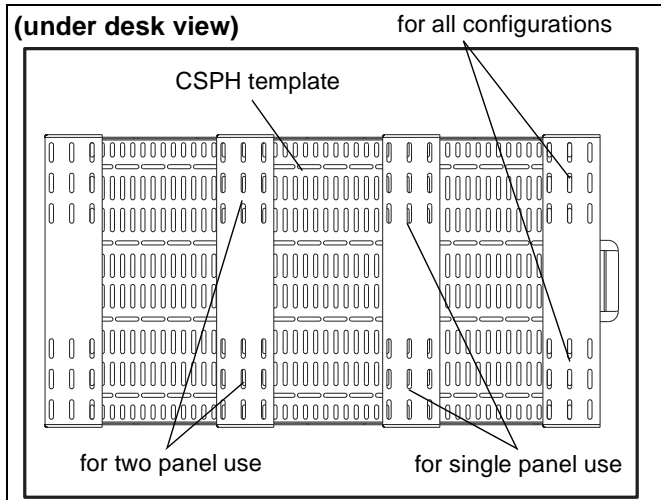

Figure 1
1. Use template drawing included with CSPH to mark mounting holes on bottom of desk at desired mounting location. (See Figure 1)